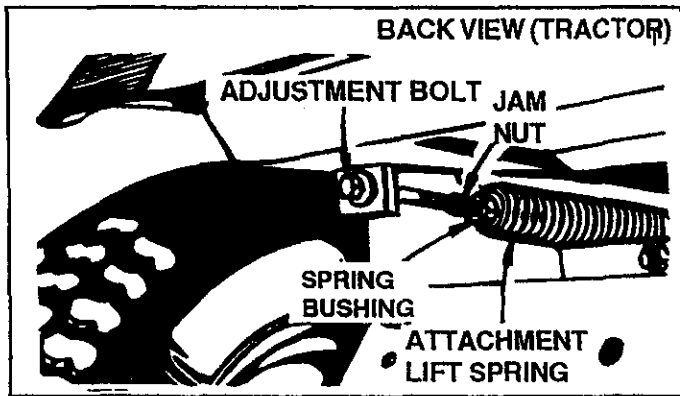

FIGURE 18
16. Relieve spring tension on lift lever (see figure 18 and note below) loosening hex jam nut and unscrewing adjustment bolt counter-clockwise to obtain 1/4" clearance between bracket and adjustment bolt.